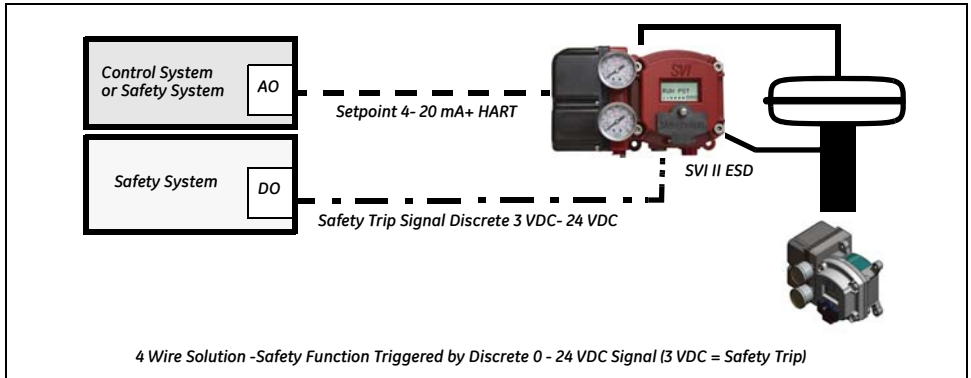

Figure 14 Analog with Discrete Safety Demand (A/DSD) Configuration
The Analog with Discrete Demand configuration is: 4 - 20 mA power input with superimposed HART® communications for control system and 24 VDC 2 wire for Safety System (Figure 14).
1. Loosen the four (4) cover screws and remove the cover of the SVI II ESD.
2. Connect the \pm terminals of the current source to the 4 - 20mA IN connector (on the terminal board). The current source + must connect to the terminal board connector +, and the same for -. See Figure 14 on page 42.